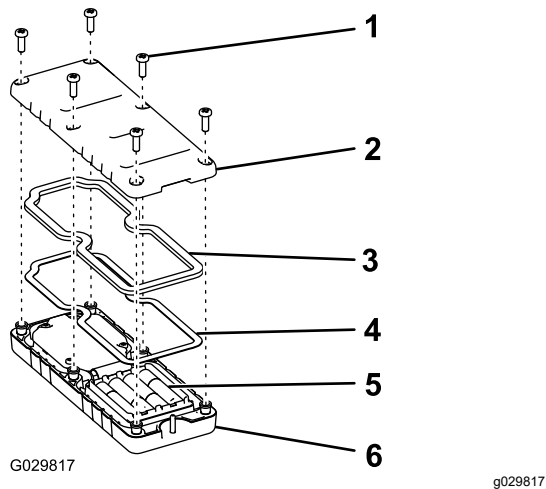

Figure 17
2. Plug each battery into a terminal cradle, observing proper polarity (Figure 17).
3. Ensure that the steel gasket and rubber seal are seated in the channel in the remote and set the back cover in place (Figure 17).
4. Secure the cover with 6 screws (Figure 17) and torque them to 1.5 to 1.7 N·m (13 to 15 in-lb).